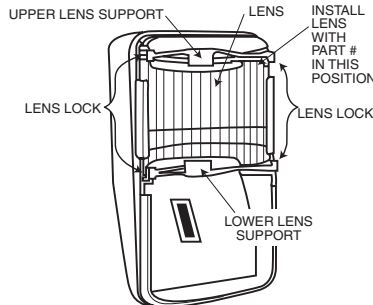

Figure 4. Changing Lenses
2. Squeeze upper lens lock located in front cover to release upper Fresnel lens support. Squeeze lower lens lock to release lower Fresnel lens support (see Figure 4).
4. Carefully remove the existing lens and replace it with an optional coverage replacement lens. *The lens must be installed with the smooth side facing outward. Also, the lens should be oriented with its part number on the upper right-hand side (see Figure 4).* Be sure to center the lens.